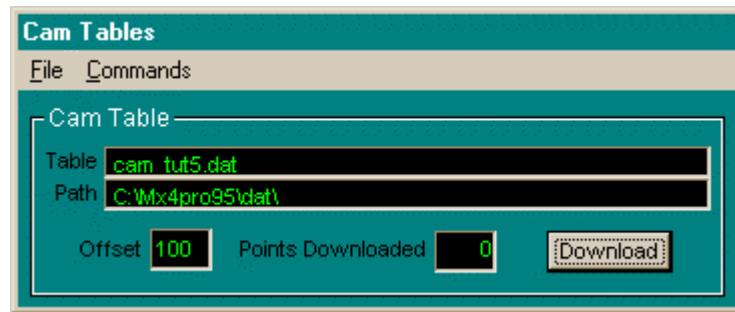

Fig. 12-2: Cam Table Tool
1. **Open the Cubic Spline Selection window.** This can be achieved by selecting **Open...** under either the **File** menu or the popup menu (right click in the Cubic Spline Tool window), or by double-clicking inside one of the two black areas (File or Path text boxes) inside the Cubic Spline Tool window (Figure 12-2).
1. **Open the Cam Data File Selection window.** This can be achieved by selecting **Open...** under either the **File** or the popup menu (right click in the Cam Table Tool window), or by double-clicking inside one of the two black areas (File or Path text boxes) inside the Cam Table Tool window (Figure 12-2).
Before an opened Cam Table may be downloaded, the offset starting index for the download must be set (Figure 12-2).